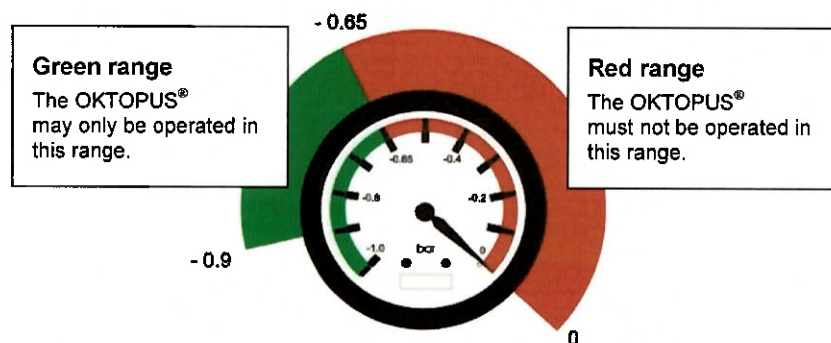

Fig. 5: Vacuum gauge
The OKTOPUS® GLASS-Jack GL-LN 600 mounted to the crane is ready for use, when a sufficient vacuum level is reached in both vacuum tanks. The current vacuum level is constantly indicated on the vacuum gauges (figure 5).
- ⇒ After the red warning light and the alarm buzzer have gone out, the vacuum gauges indicate that the working range (see fig. 5) has been reached, the green signal light flashes and you’ve made sure that there’s nobody in the hazardous area, you can lift the load.
- ⇒ After the red warning light and the alarm buzzer have gone out, the vacuum gauges indicates that the working range (see fig. 5) has been reached, the green signal light flashes and you've made sure that there's nobody in the hazardous area, you can lift the load.